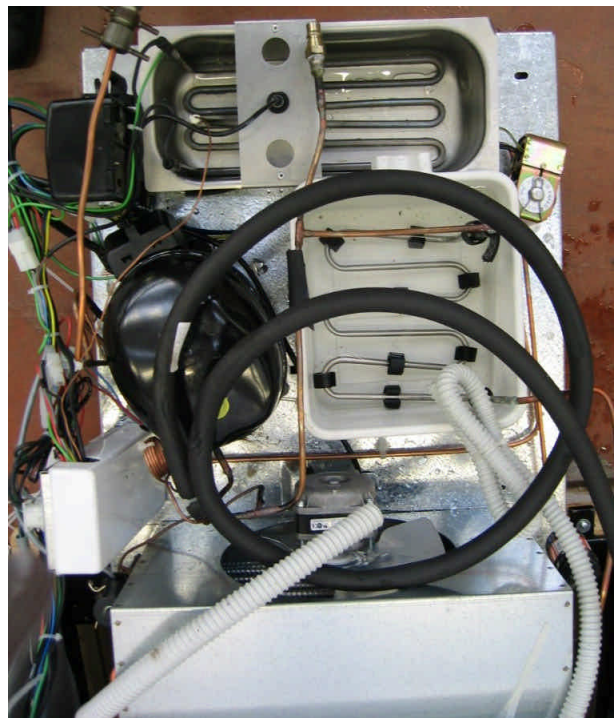

Figure 28
A top view of the base plate is represented in Fig. 28. From front to back are located the condenser (22), with the dryer (30) on the right and the High Pressure Switch (PAP) (105) on the left (when present). The condenser motor fan (MC) (45+48) is sucking air through the condenser and blowing it towards the compressor and the back grille.